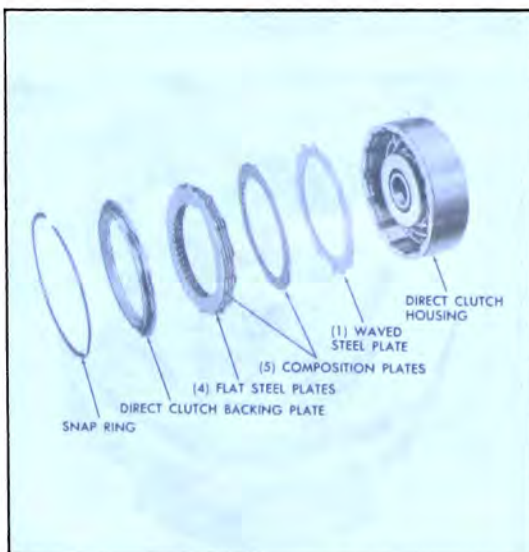

Figure 74-684
5. Inspect the drive and driven clutch plates for sign of wear or burning. See Figure 74-684.